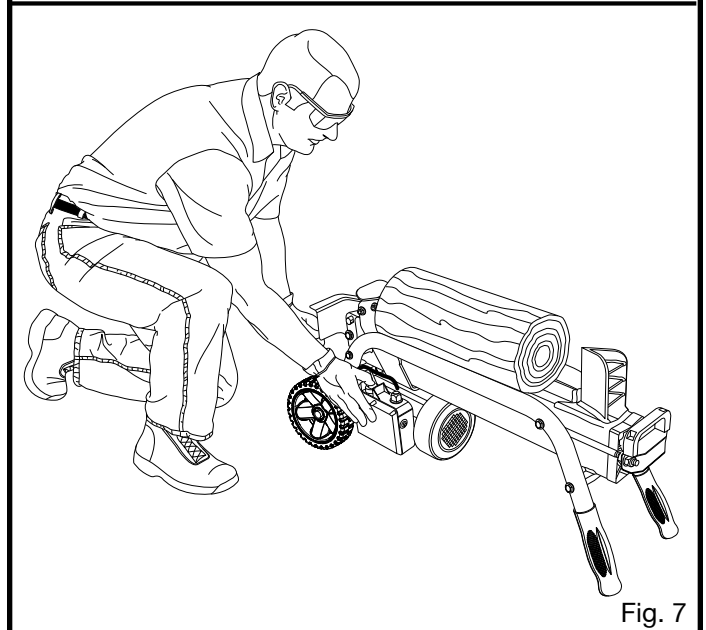

Fig. 7
- Operator should be positioned at the rear of the log splitter as shown in figure 7.